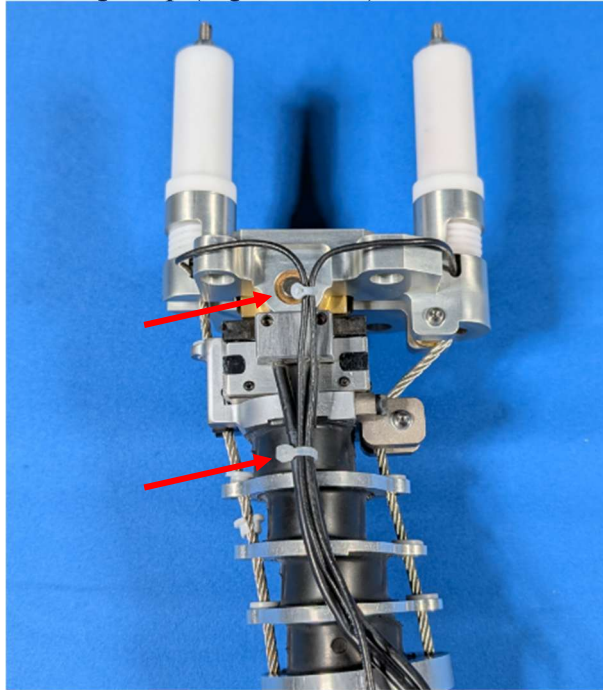
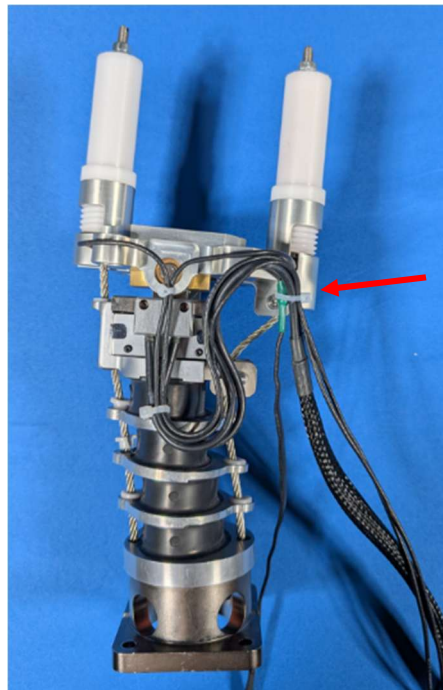

Figure 13-17. Spring tower load cell wire routing
Figure 13-18. Spring tower load cell and head plate wire routing
- 13.4.1.4 Route the neck spring load cell wires down the left side of the neck assembly. Bundle the two wires and add a tie wrap before bundling the spring load cell wires with the upper neck load cell wires and adding another tie wrap as shown (Figure 13-17). Loop the bundle up to the rear of the neck and add a tie wrap that includes the neck grounding strap (Figure 13-18).